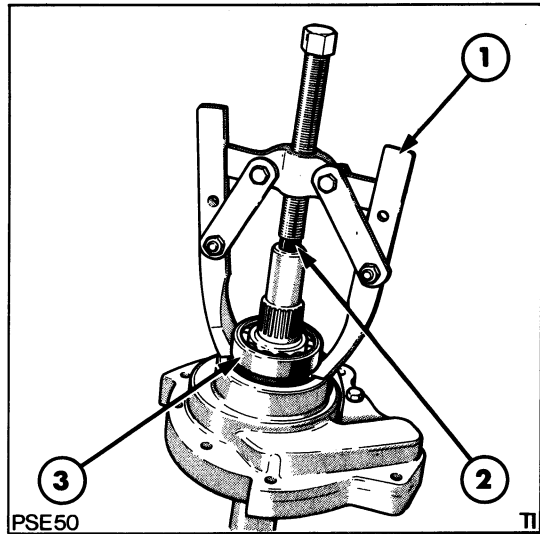

Figure 50
3. Using puller no. 1003, or 9516, and a suitable shaft protector, pull off the bearing from the shaft, Figure 50, and remove the second snap ring from the shaft